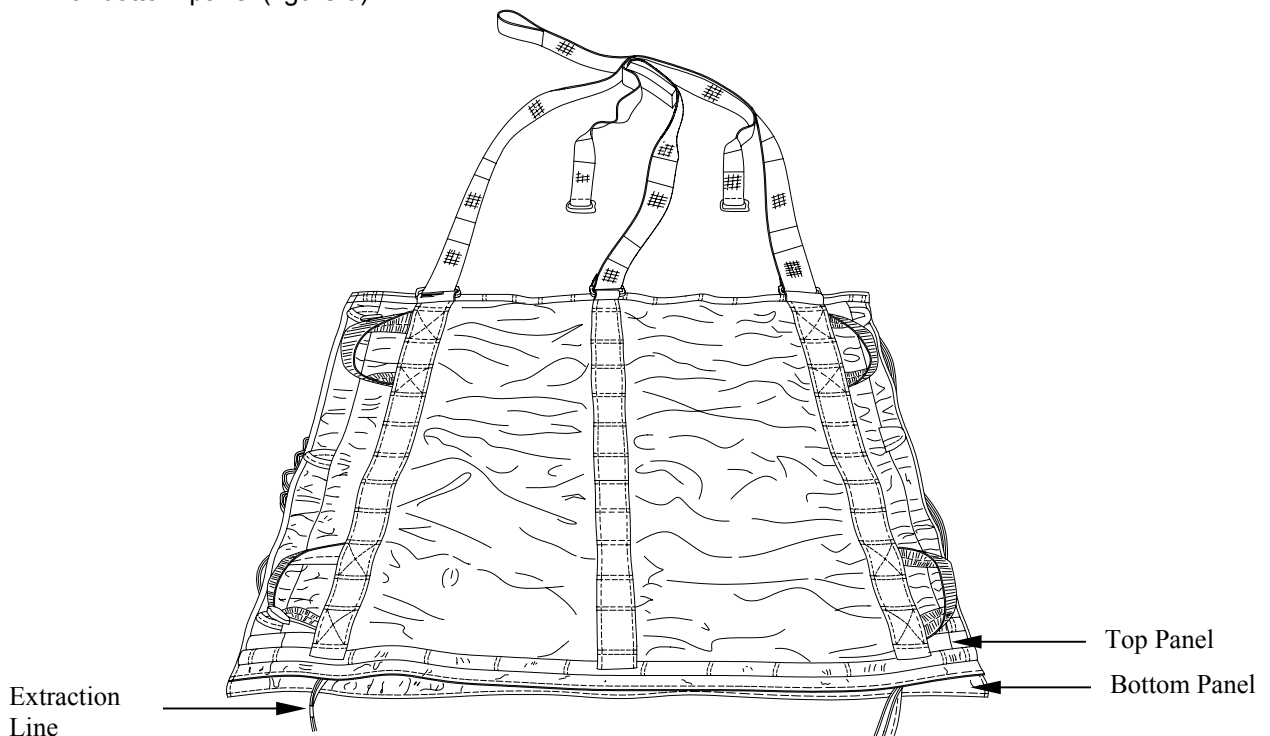

Figure 9. Top Panel in Place for Closing Extraction Line Bag.
- a. Place top Extraction Line Panel on stowed extraction line with closing loops facing up and align with bottom panel (figure 9).